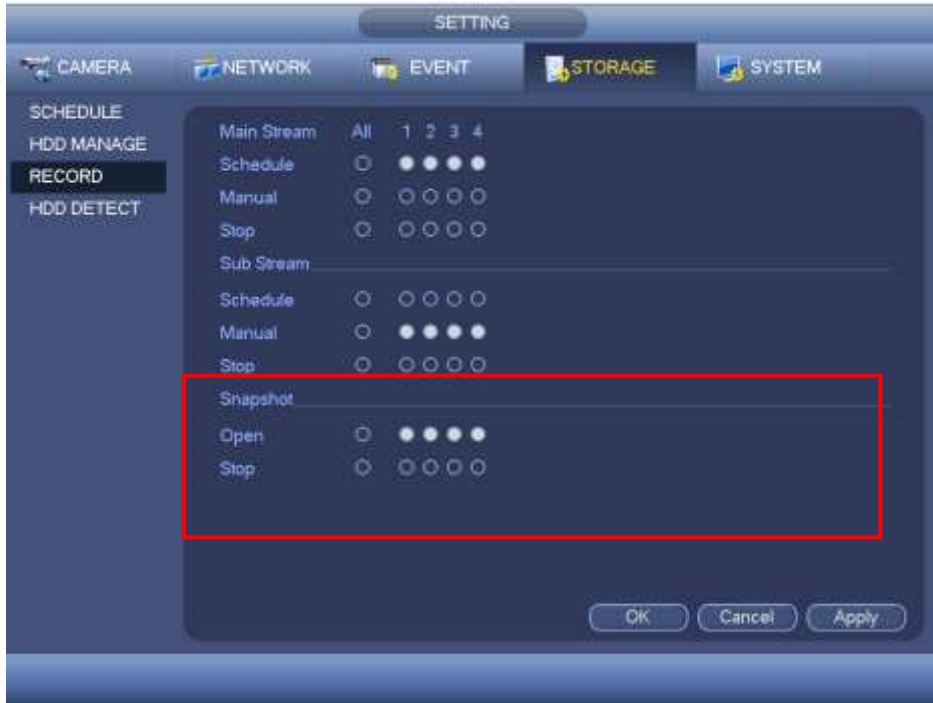

Figure 4-154
- On the preview interface, right click mouse and then select Manual->Record, or in the main menu, from Setting->Storage->Record, check the box to enable snapshot function of corresponding channels. See Figure 4-154.